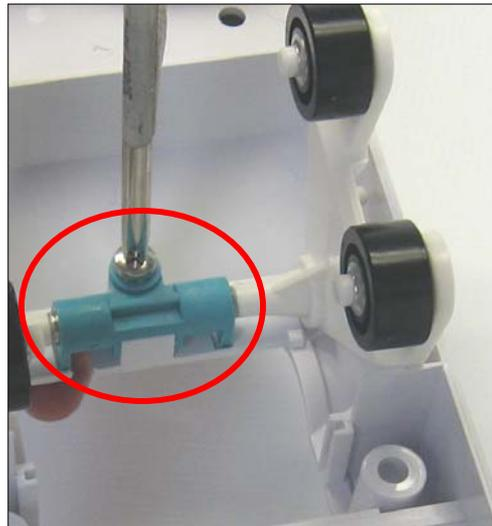

Figure 28
2. Remove the screw and saddle assembly holding the A-Frames in place from the inside of the lower body (fig 28). Tighten Securely when replacing.